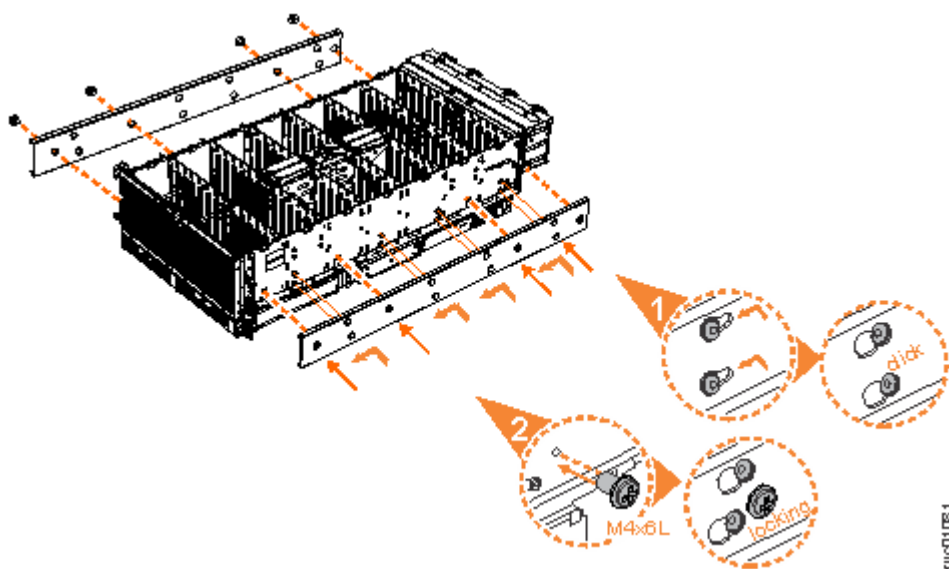

Figure 30. Attaching the inner rail section to the enclosure
5. Install the inner section of the rail onto each side of the expansion enclosure, as shown in Figure 30 on page 28.